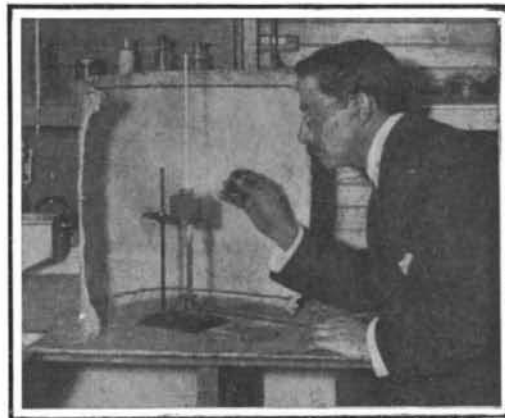

Fig. 2.—FLASH TEST.
4. **Flash and Fire Tests.**—The flash point of a lubricating oil is the temperature which, a burning taper being held over the surface of the oil, will produce a flame. Only the vapors which have risen from the surface of the heated oil are ignited, however, and not the oil itself. Hence the flame is almost immediately extinguished. By the fire test, we determine the temperature at which an oil takes fire and continues to burn when brought in contact with a burning taper. (See Fig. 2.)